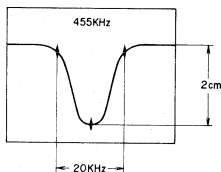

Fig. 13
- 2) Connect Genescope output to Test Point (TP) and Genescope Input to Point (8) (AF Output).
- 4) Adjust cores of IFT, T₁, T₂, and T₃ of AM IF Amp P.C. Board so that the waveform (Fig. 13) level is maximum and center frequency is 455 kHz (Center frequency differs according to country. Adjust according to country's center frequency).